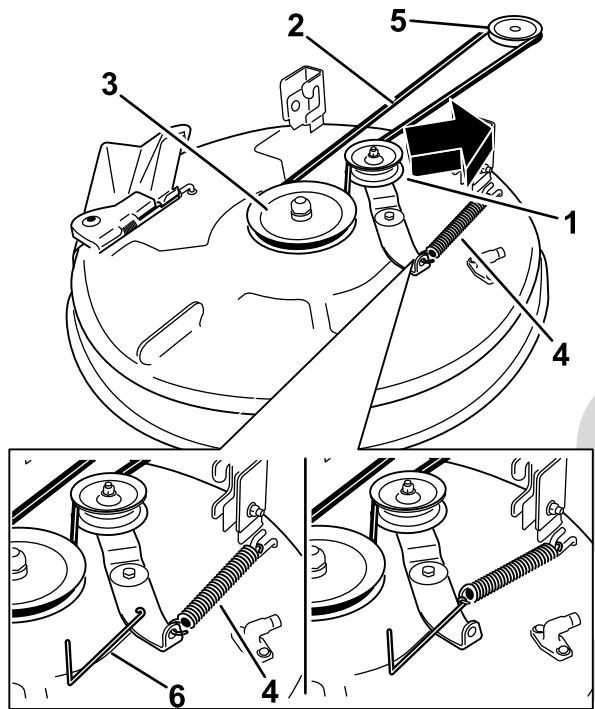
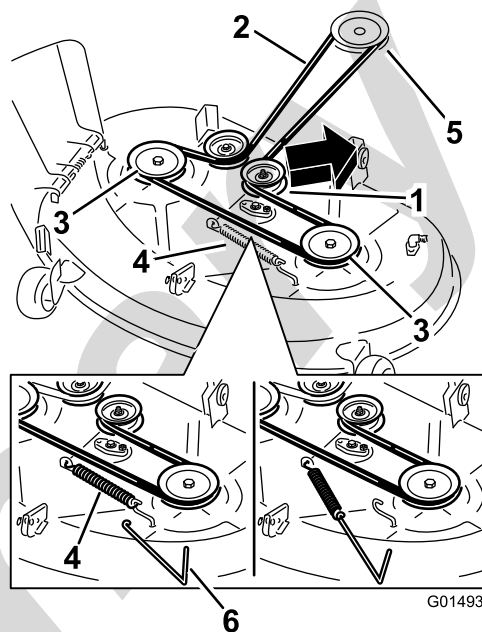

Figure 59
Figure 60
remove tension on the idler pulley and roll the belt off of the pulleys (Figure 59 and Figure 60).
5. Route the new belt around the engine pulley and mower pulleys (Figure 60).
6. Using a spring removal tool, (Toro part no. 92-5771), install the idler spring over the deck hook and placing tension on the idler pulley and mower belt (Figure 59 and Figure 60).